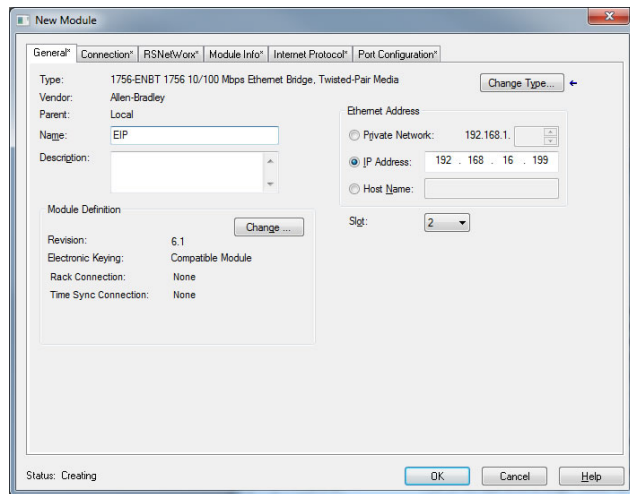

Figure 31: Identifying the New Module
- 6) The “New Module” window will open. Refer to Figure 31.